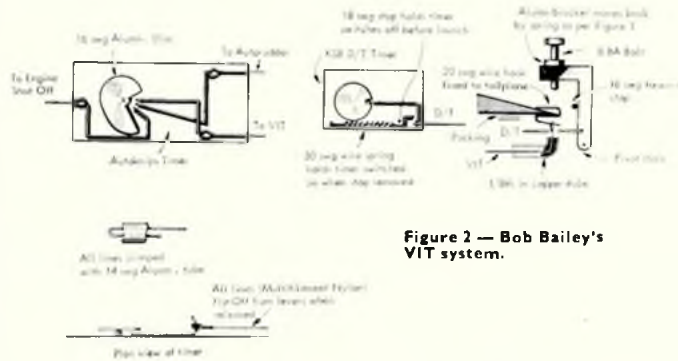

Figure 2 — Bob Bailey's VIT system.
2. When the model is caught by the pitman the tailplane of the model has a natural urge to want to continue, with the result that the rear of the model tends to whip outwards (see Figure 2).
My own system (*Figure 2*) performs the same functions, but in a different manner. I have favoured Autoknips timers for engine and VIT, since they have been more consistent than anything else I have seen so far, and a KSB timer operates the D/T.